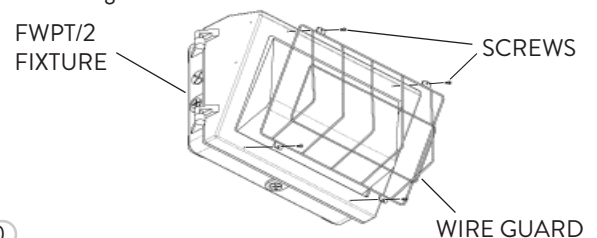

FIG. 10
The Optional Wire Guard protects against vandalism and breakage. Align the Wire Guard to the holes (4) at the front of the FWPT/2 fixture and fasten the Screws (Fig. 10).